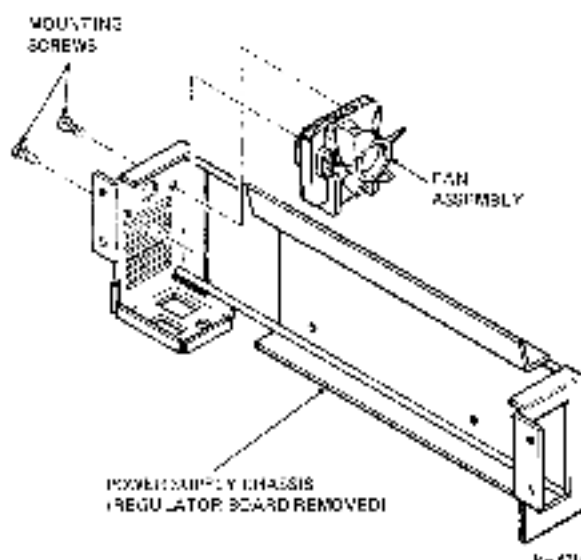

Figure 6-7 Power Supply Fan Assembly Removal
5. Remove the two (2) screws securing the fan assembly to the power supply chassis (Figure 6-7). The screws may be removed with either a nutdriver or a blade-type screwdriver.